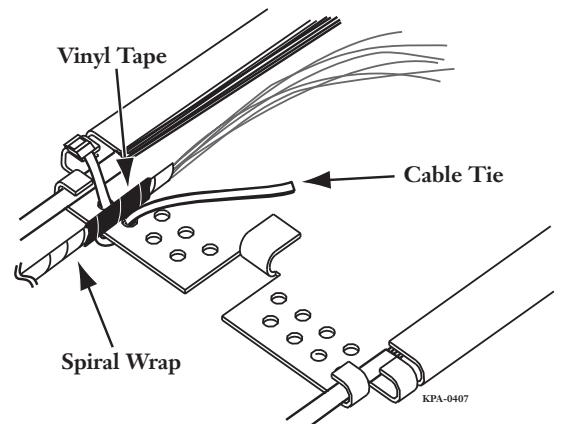

Figure 28
**Step 6:** Place vinyl tape at the end of the spiral wrap (Figure 28).